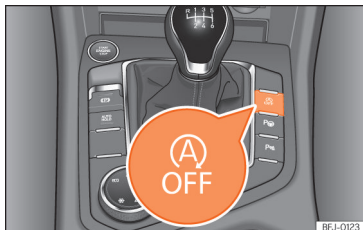

Fig. 165 Centre console: Start-stop system button.
- To manually switch on/off the Start-Stop system, press the  button »» Fig. 165.